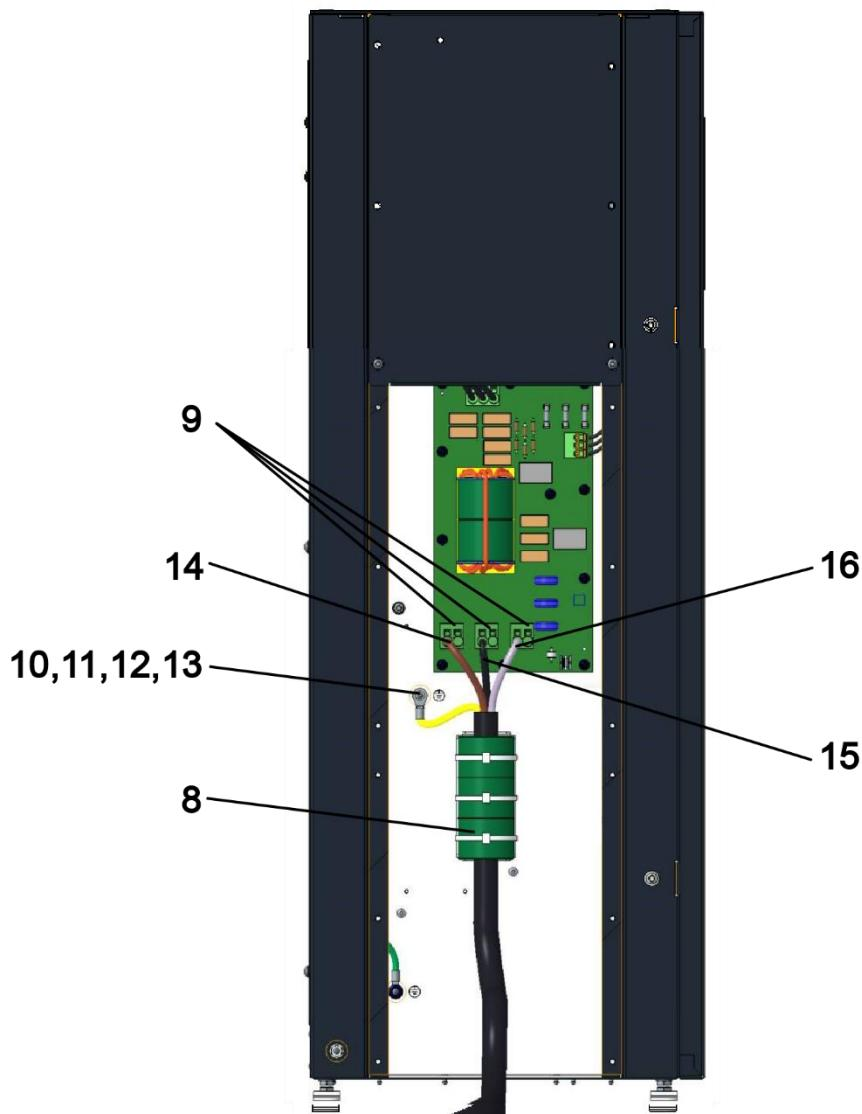

Figure. 22 Feeding the Cable through Cable Gland (view without Covers)
**Note:** EU wire colors are shown in Figure. 22.
5. Attach the cable gland or conduit and feed the cable through to reach the ferrite ring core unit (8), see Figure. 22.
**Note:** Make sure not to damage the lower cover plate (3).
6. Carefully feed the cable through the ferrite ring core unit (8).
7. Pull enough cable through the ferrite ring core unit (8) to reach the connections at the protective ground stud (10) and the terminal block (9) without causing any tension.